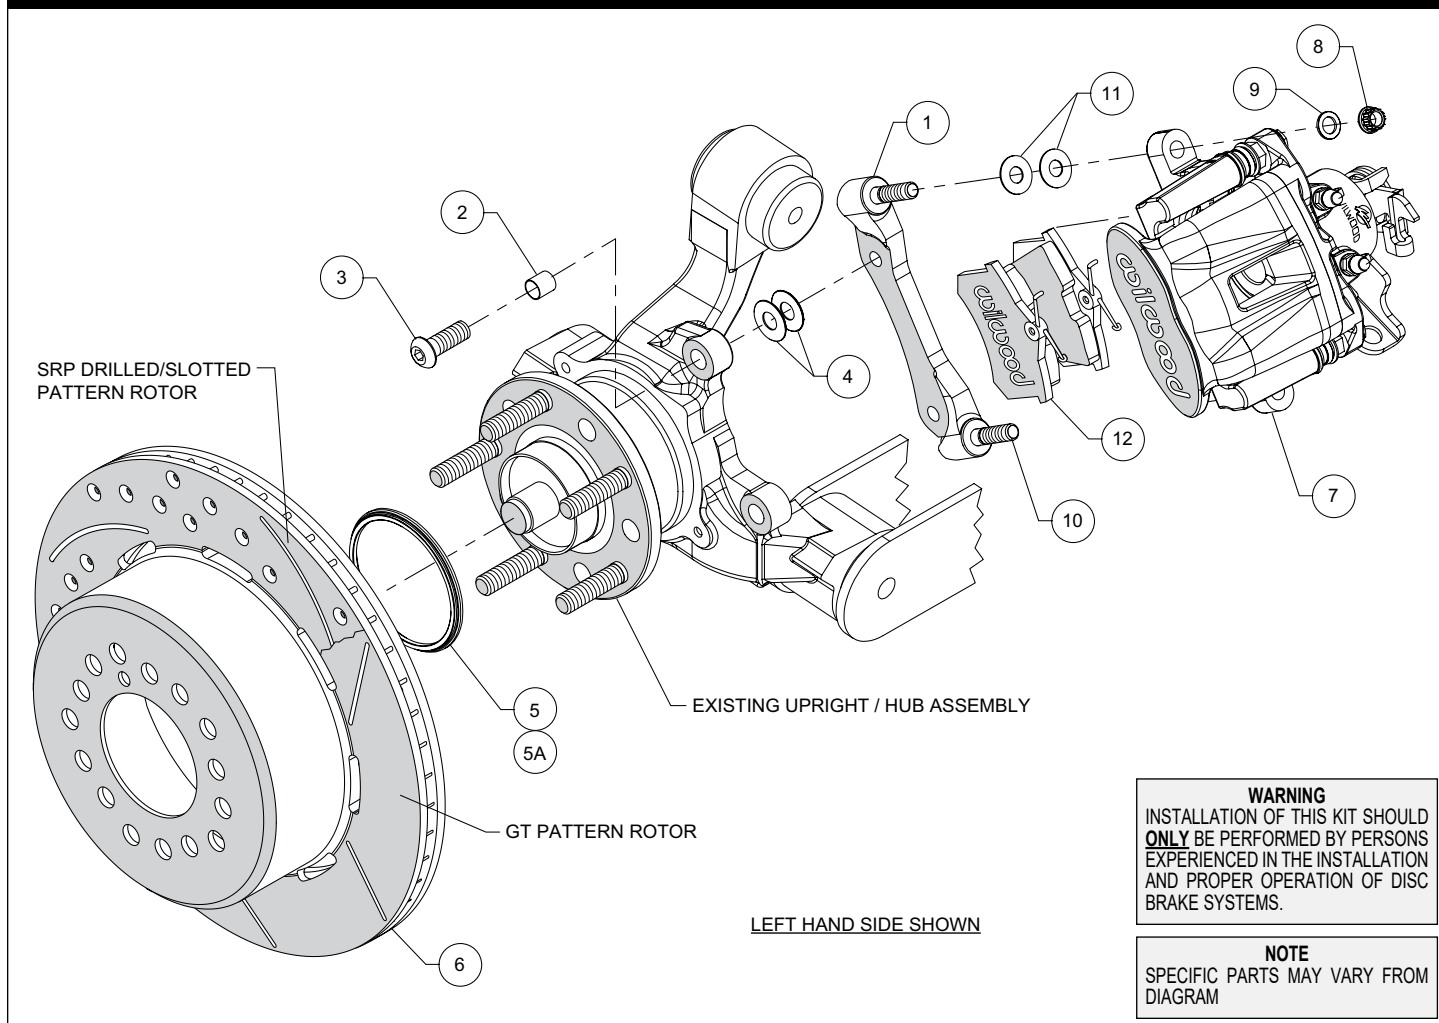

Figure 1. Typical Installation Configuration
**NOTE:** Numbers in parenthesis refer to the parts list and Figure 1 on the preceding pages.
- The caliper mount bracket (1) should initially be installed with clean, dry threads on the mounting bolts. Insert sleeves (2) into caliper bracket mounting holes in upright, Figure 1. Orient the bracket as shown in Figure 1, and install using bolts (3). Initially place two .030" thick shims (4) on each bolt between the bracket and upright, Figure 1. Temporarily tighten the mounting bolts. **NOTE:** The bracket must fit squarely against the mount bosses on the upright. Inspect for interference from casting irregularities, machining ridges, burrs, etc. Later, after the caliper alignment has been checked, the mount bolts will be secured using red Loctite® 271.
- Align the correct hole pattern in the rotor/hat with the stud pattern on the axle flange and slide into place, Figure 1 and Photo 3. **NOTE:** The rotor/hat must fit flush against the axle flange or excessive rotor run out may result. Install three lug nuts (finger tight) to keep the rotor/hat assembly in place while continuing with the installation. **NOTE:** Some OEM and after market axles come with stud sizes larger than 0.50" diameter. Verify stud size and have a qualified machine shop drill the bolt circle of the hat/rotor to the correct stud size, if necessary.
- Slide the brake pads (12) up into the caliper (7) from the bottom with the friction material facing the rotor until the “v” spring clip snaps into place against the anvil, as shown in Figure 1 and Photo 4. They should install easily without interference.
- Lubricate the caliper mounting studs (10) with lightweight oil. Initially place two .035” thick shims (11) on each stud as shown in Figure 1. Mount the caliper (7) onto the bracket (1) using washers (9) and lock nuts (8), as shown in Figure 1. Temporarily tighten the mounting nuts and view the rotor (6) through the top opening of the caliper. The rotor should be centered in the caliper, Photo 5. If not, adjust by adding or subtracting .030” shims (4) between the caliper mounting bracket and the upright to center the caliper on the rotor. Always use the same amount of shims on each of the two mounting bolts. Once the caliper alignment and pad centering are correct, remove the bolts (3) one at a time, apply red *Loctite*® 271 to bolt threads, and torque to 40 ft-lb.
- Check that the top of the brake pad (12) is flush with the outside diameter of the rotor (6), Photo 6. If not, adjust by adding or subtracting shims (11) between the caliper and the bracket. Torque nuts (8) to 30 ft-lb.